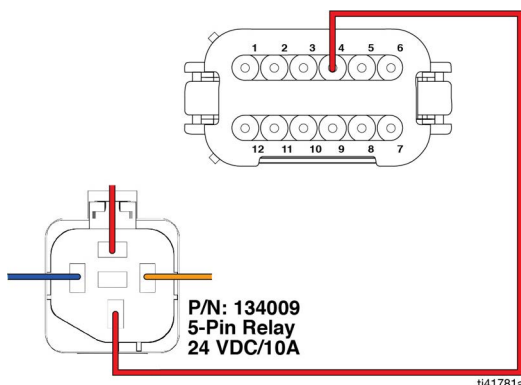

FIG. 27
4. Splice one red wire from the relay to the motor (+) location of the GLC 2200 Controller harness going to the pump (FIG. 27).